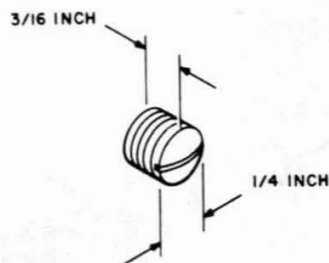

Fig. 4—B Screw Plug
3.01 ♦The B screw plug (Fig. 4), rated Manufacture Discontinued, is a tinned brass set screw. It is used to seal 1/4-inch drilled holes made for flash testing solder work on lead sheaths and sleeves.